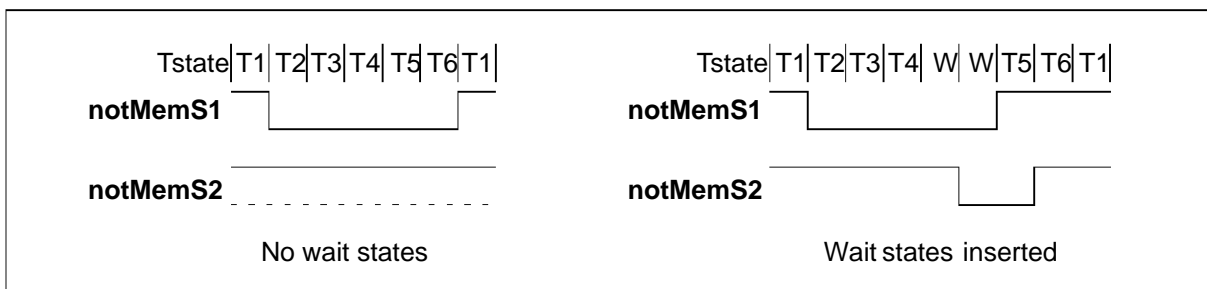

Figure 5.6 IMS T425 effect of wait states on strobes
**notMemS2**, **notMemS3** and **notMemS4** are identical in operation. They all terminate at the end of **T5**, but the start of each can be delayed from one to 31 periods **Tm** beyond the start of **T2**. If the duration of one of these strobes would take it past the end of **T5** it will stay high. This can be used to cause a strobe to become active only when wait states are inserted. If one of these strobes is configured to zero it will never go low. Figure 5.6 shows the effect of **Wait** on strobes in more detail; each division on the scale is one period **Tm**.